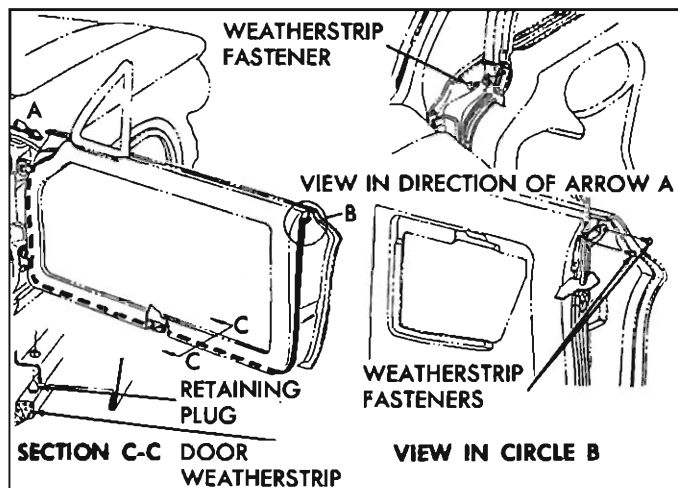

Fig. 2—"67" Style Front Door Weatherstrip Attachment
1. On "67" styles, remove weatherstrip fasteners at top of hinge and lock pillar panels as depicted in Figure 2.